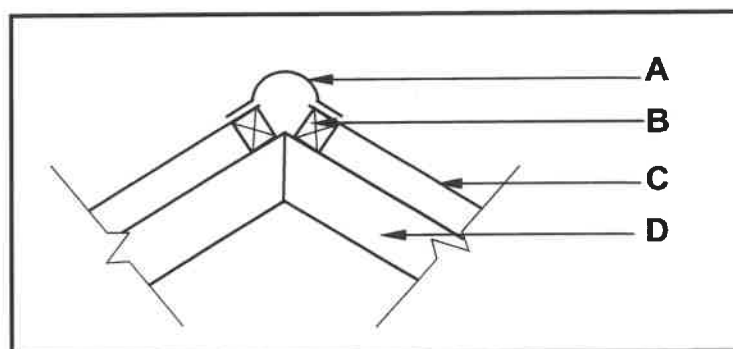

FIGURE 3.5
- 3.5 FIGURE 3.5 below shows a partial roof construction.